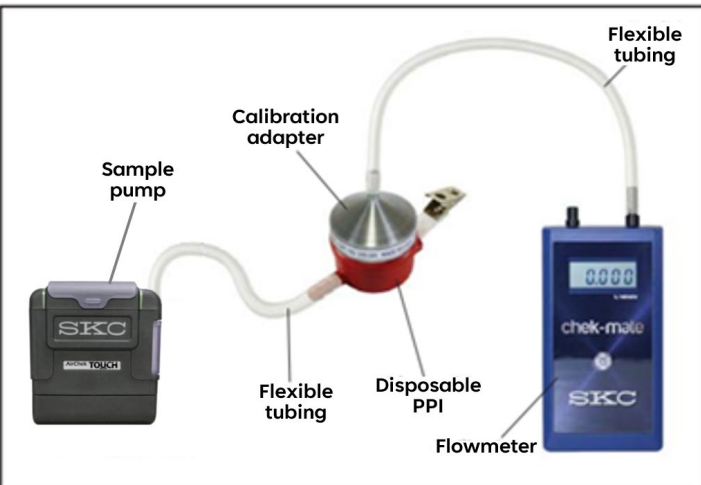

Figure 2. Flow rate verification train
2. Set Up the Flow Rate Verification Train — Figure 2